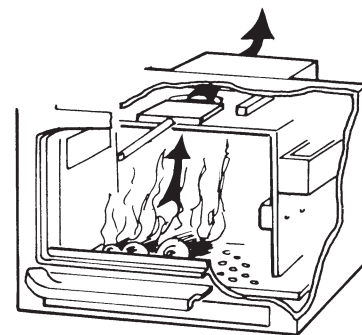

FIGURE 10
2. Open the bypass damper (pull) located over the center of the door. When the bypass damper is open gasses will be exhausted directly up the flue. (See Figure 10)